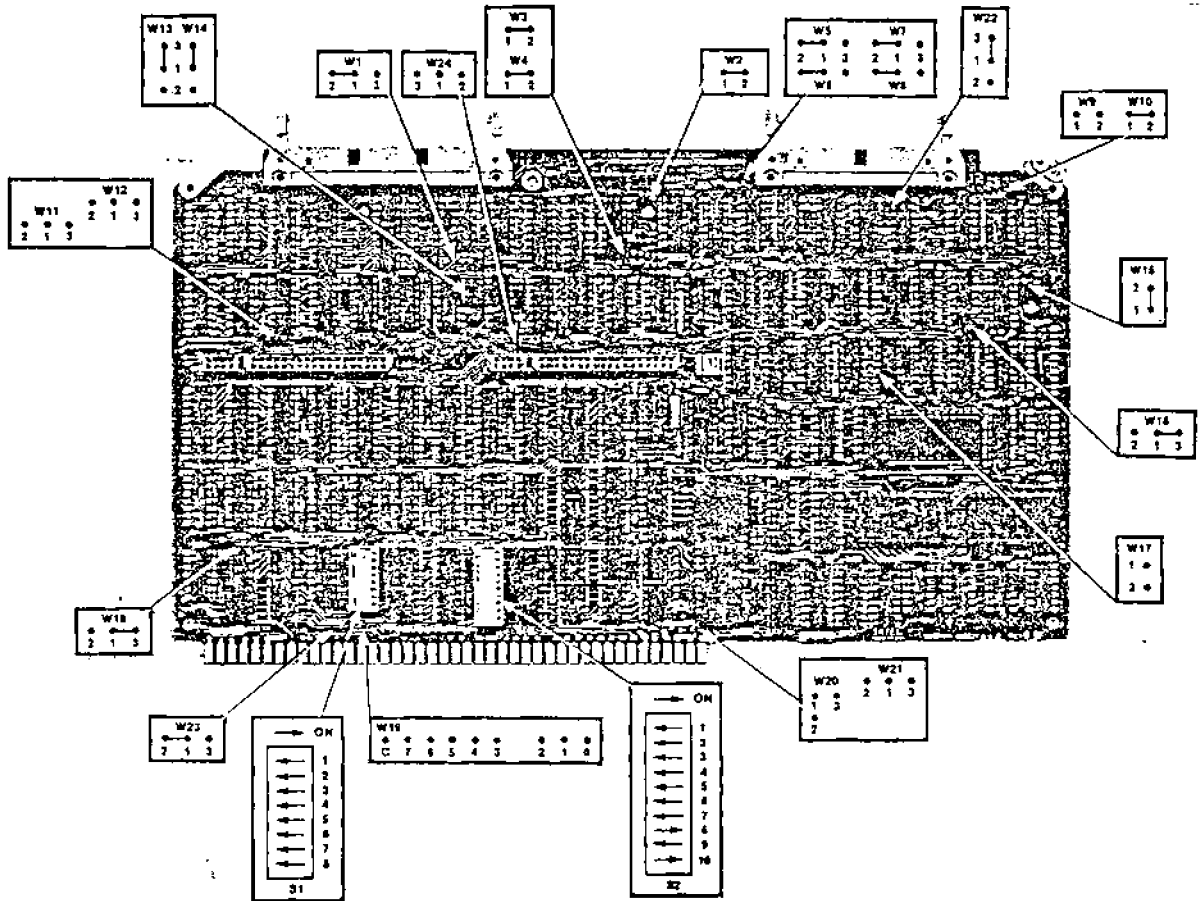

Figure 2-3. Controller Jumper/Switch Configuration
1. Verify the position of all relocatable jumpers (refer to figure 2-3 and table 2-1).
2. Verify that the address switches are set to the correct positions (see figure 2-3). The wake-up address for the controller is 50H (S2-8 and S2-10 'on'). The system uses an 8-bit data bus (S2-1 'off') and 8-bit I/O addressing (S2-2 'off').
<p>Drive Compatibility: Determines specific disk drive. Set as shown in figure 2-3 for Winchester peripheral subsystem.</p>	<p>W1, W2, W5, W6-10, W13-17, W22</p>
<p>Interrupt Priority Level: Selects the controller's internal interrupt request signal. Left open as shown in figure 2-3.</p>	<p>W19</p>